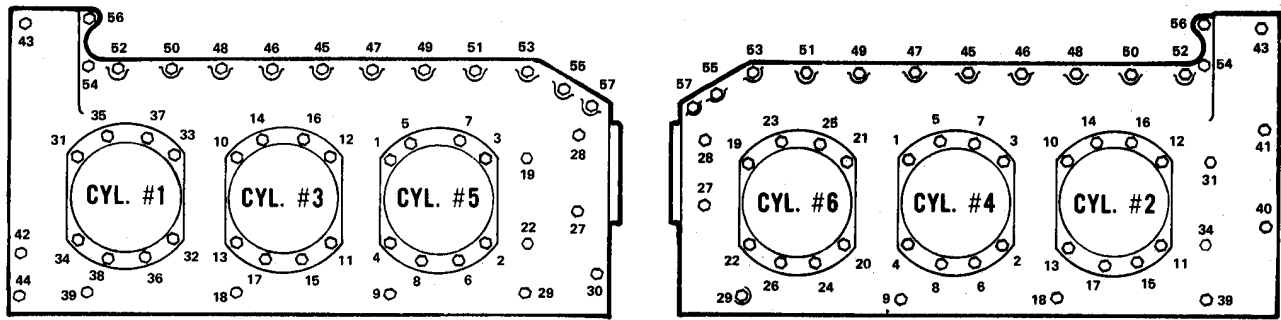

FIGURE 8-7 TORQUING SEQUENCE
h. Tighten flanged nuts according to sequence in Figure 8-7 or 8-8 or 8-9.